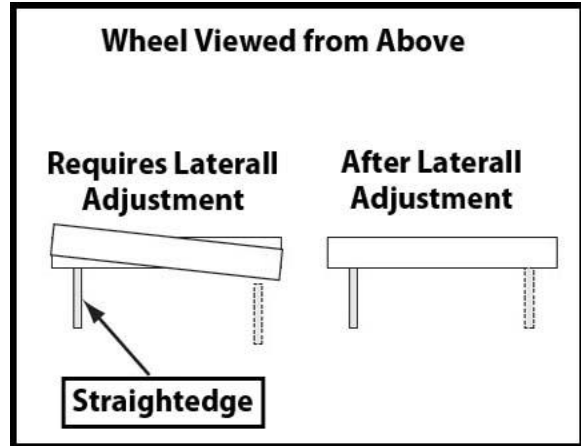

Figure 16
- Adjust the left and right bolts by rotating them until the lower wheel is coplanar with the upper wheel. See Figure 16.